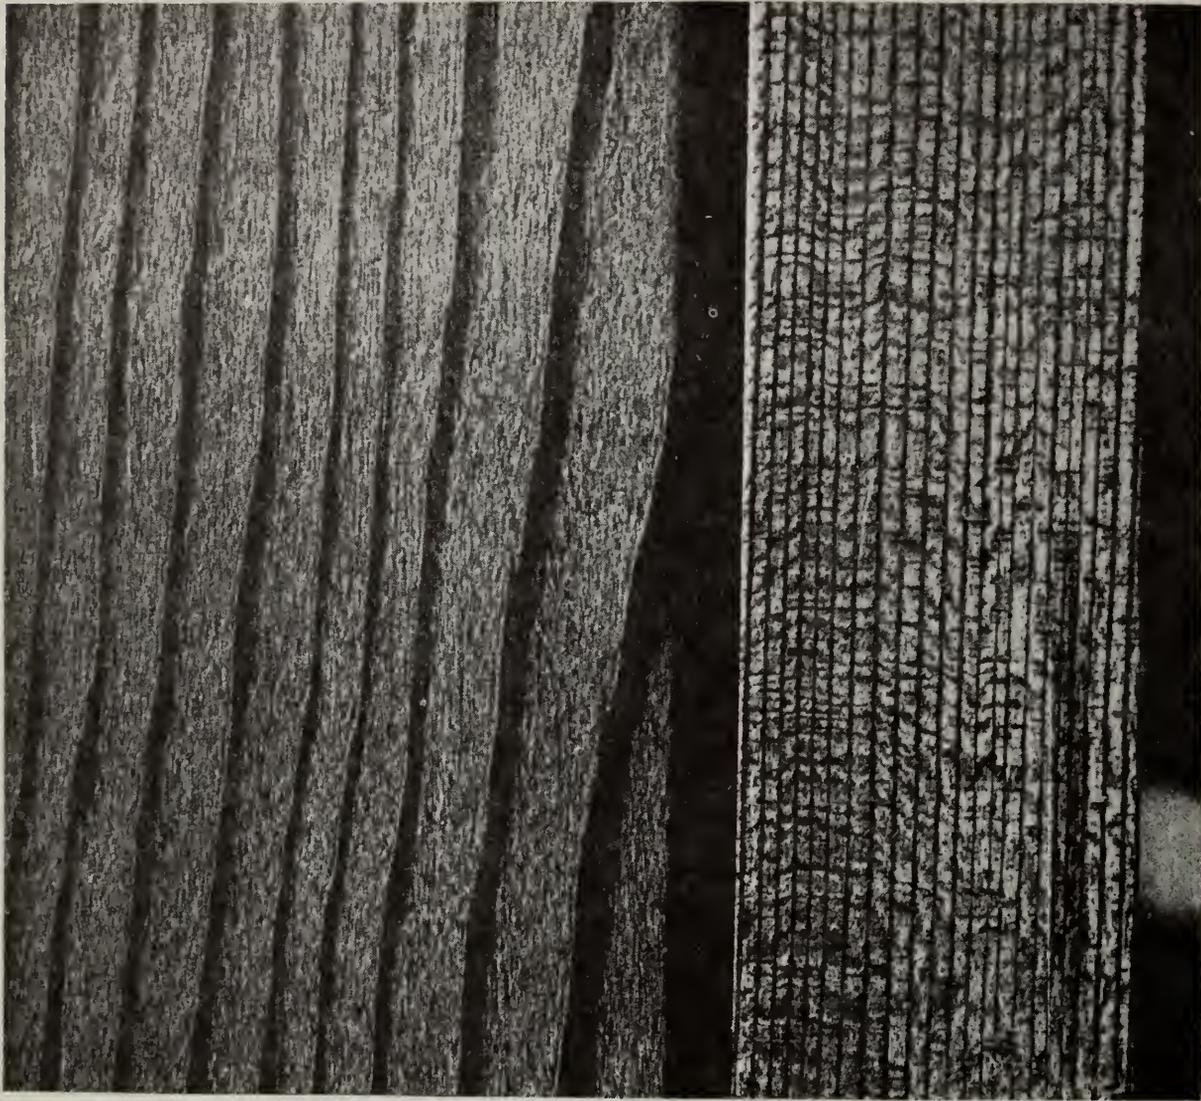

FIG. 31
F. E. Morton: "We have here another wood—larch. This is a good picture showing flat and quarter sawed. (Fig. 31.) What is the relationship of the quarter sawed to the cedar?"